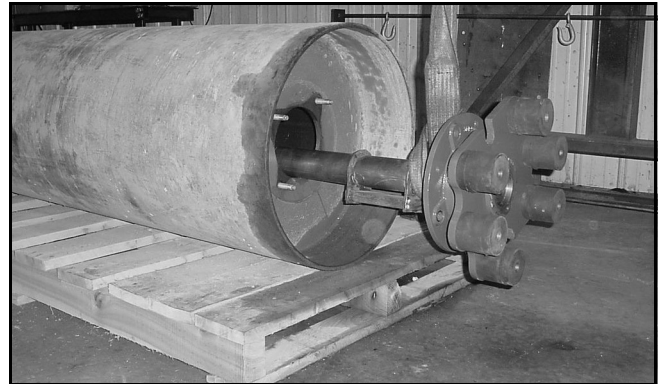

Figure 5
7. Slide the outer bearing housing (28) out of the drum. If needed, use threaded holes (1/2" UNC) in the housing to unseat it from the drum weldment, Figure 5.